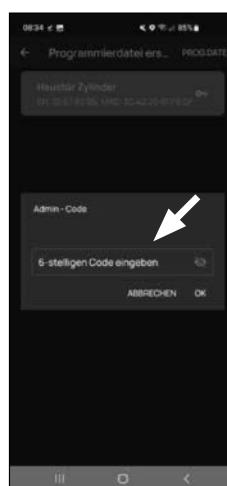

Fig. 3
- ④ Here you will be asked to verify yourself with your administrator code. Enter the code and confirm with "OK" (Fig. 3).